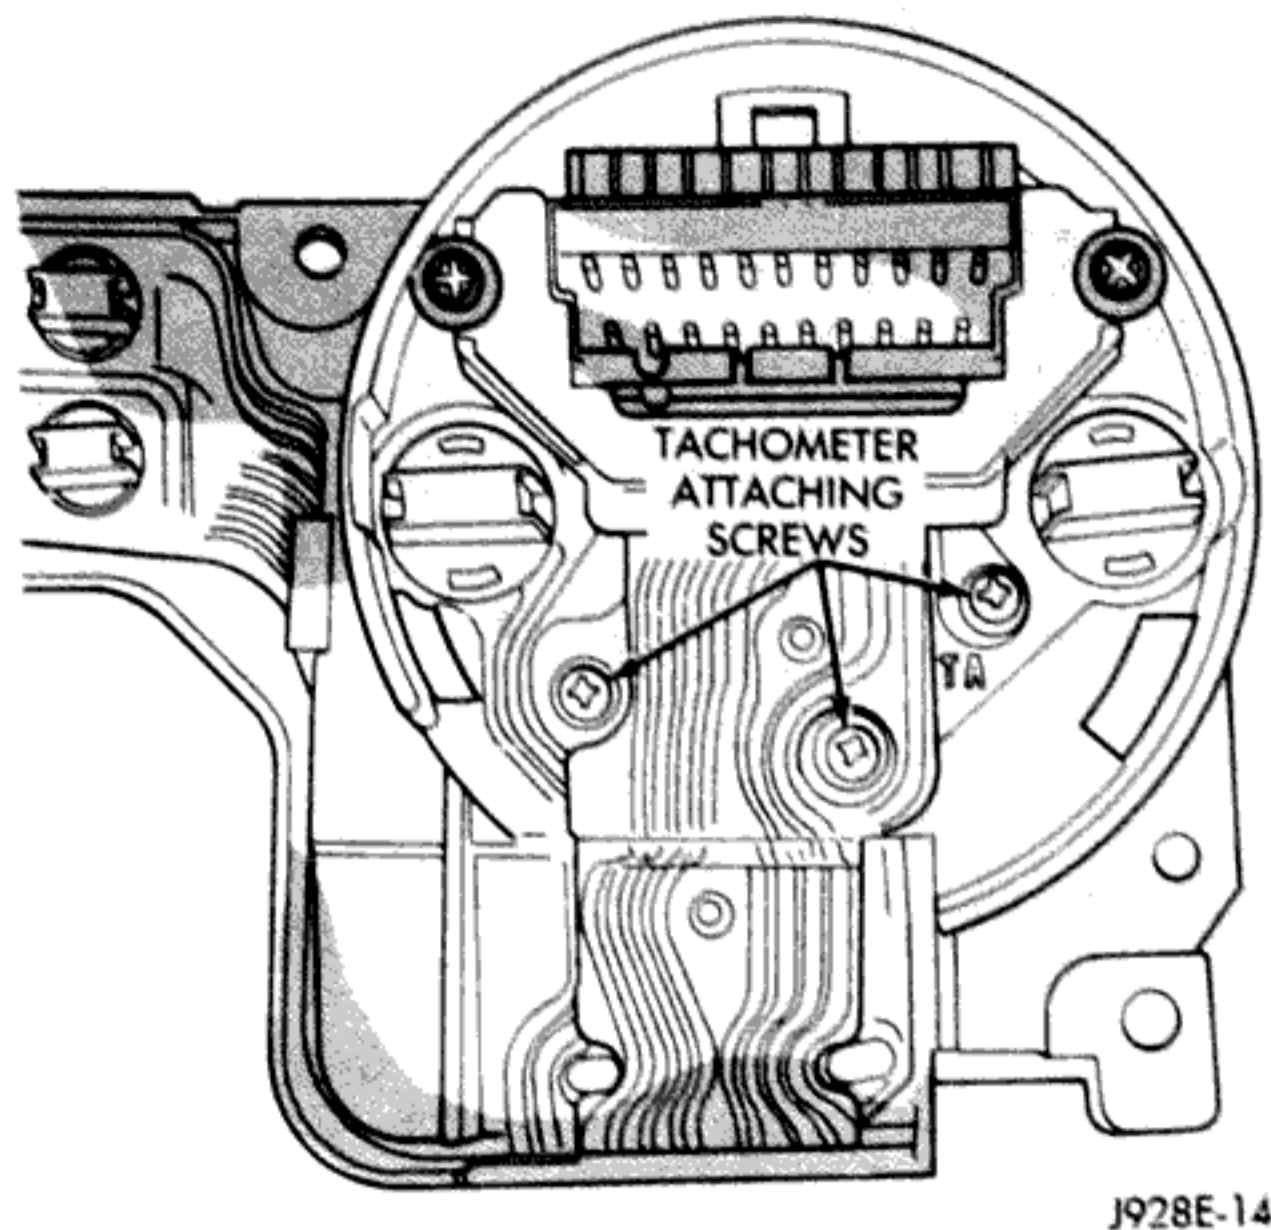

Fig. 15 Gauge Remove/Install
- (4) Remove 3 screws that retain gauge from rear of cluster housing (Fig. 15) and remove gauge.